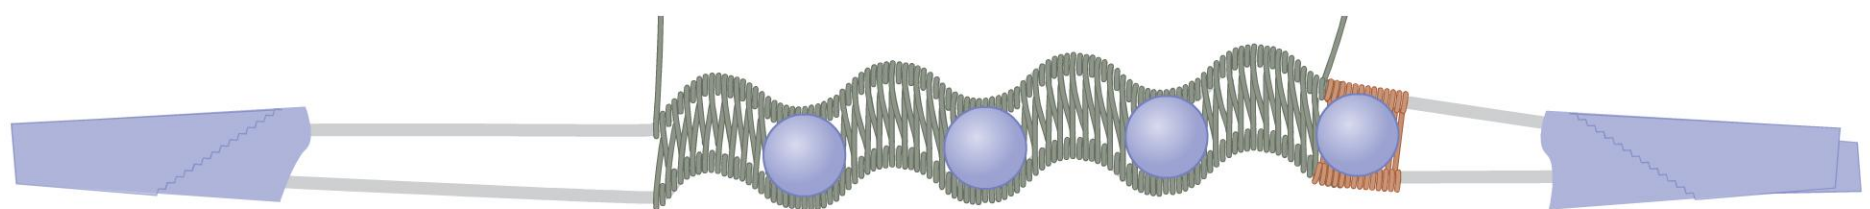

figure 5
- 14 Repeat Steps 12 and 13 twice. Leave the second temporary bead in place on the wire frame and weave to the bottom of the last curve. Remove the first temporary bead (Figure 5).